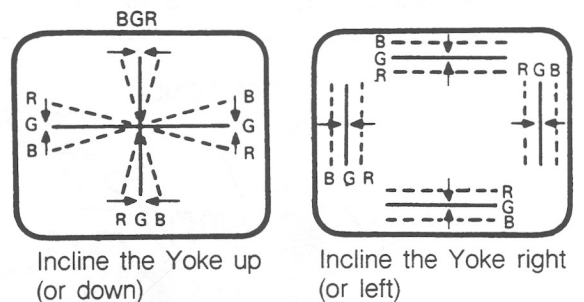

Fig. 14 CIRCUMFERENCE CONVERGENCE BY DEF. YOKE
3. Tilt front of the deflection yoke up or down to obtain better convergence in circumference. (see Fig. 14) Push the mounted wedge into the space between picture tube and the yoke to hold the yoke temporarily.
5. Tilt front of the yoke right or left to obtain better convergence in circumference. (See Fig. 14)